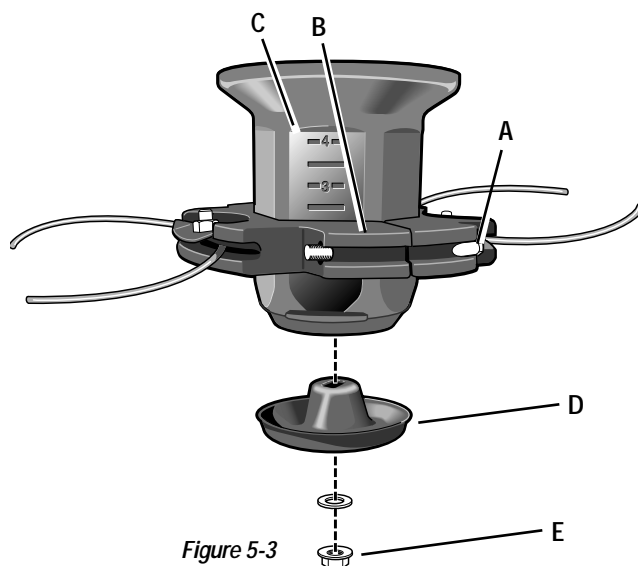

Figure 5-3
B. Two bolts (A, Figure 5-3) secure the trimmer head (B) to the spindle head (C). Loosen both bolts (not the nuts) sufficiently to open up the trimmer head enough to let it slide down the spindle head and past the two stops. Do not attempt to remove the bolts completely—they are permanently attached.
C. If the wear cup (D, Figure 5-3) is also worn, replace it. To do so, insert a phillips head screwdriver in the hole at the top-front of the deck while removing nut (E). Discard the old cup, position the new wear cup, and replace nut (E) securely.